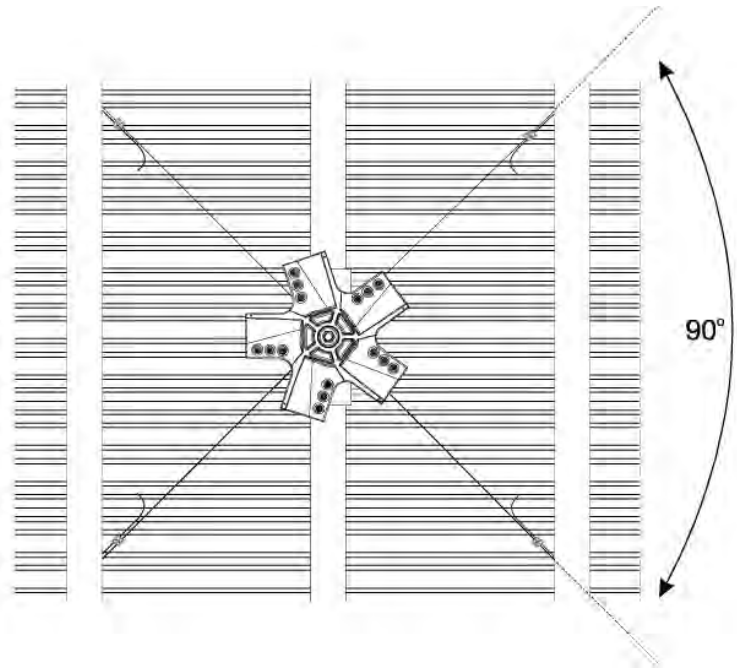

Fig.17
5. Guy wires should be tight. Allow fan to self-level and recheck level as you tighten each guy wire. They should also be approximately 90° apart (Fig.17).